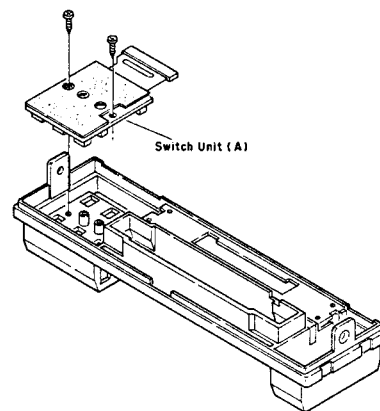

Fig. 12
3. Undo 2 screws to remove switch unit (A) (Fig. 12).